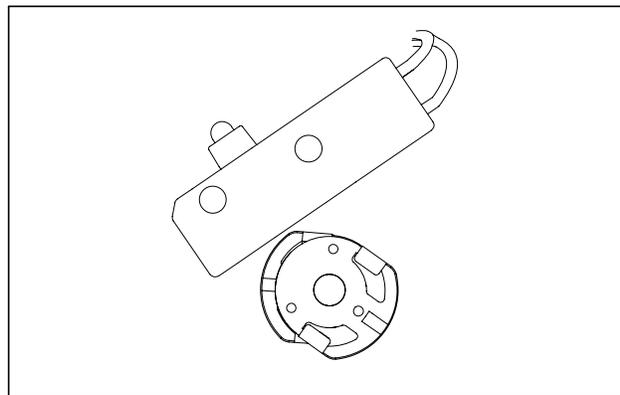

Fig. 6 Cams Set for Normally Open Sensor Function
I. For Normally Open Function, Fig. 6